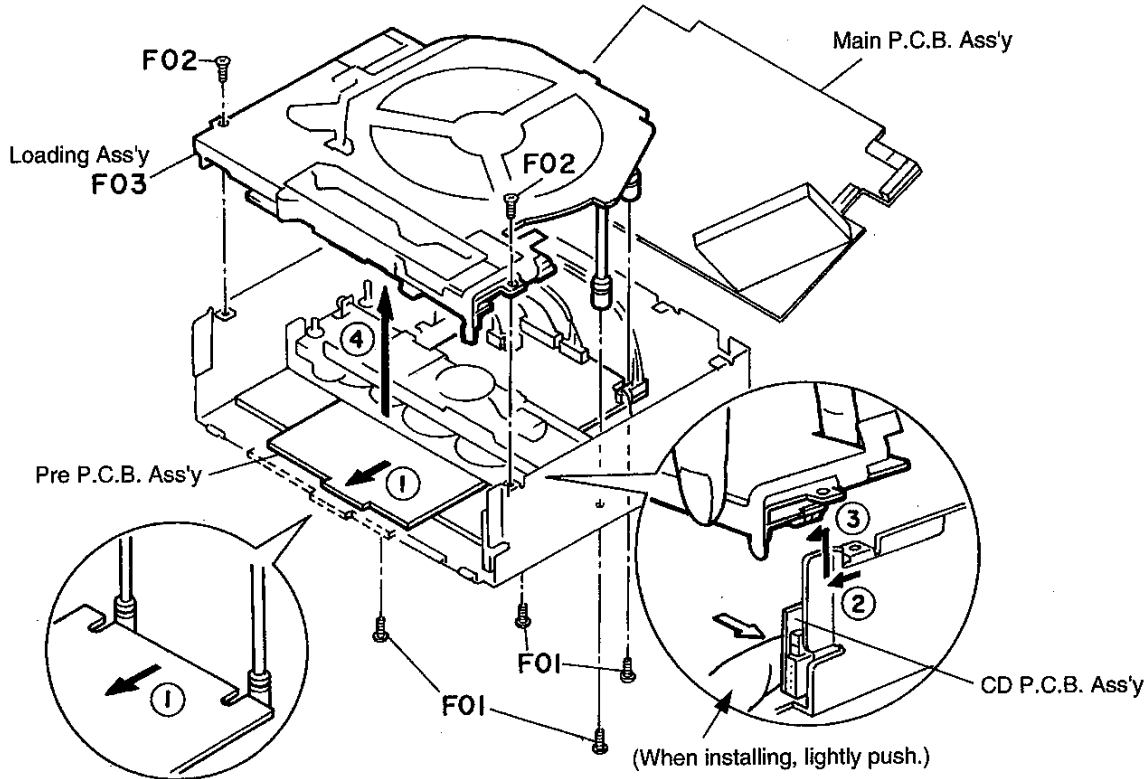

Fig. 2.3.1
Refer to Fig. 2.3.1.
- While seating the right front side of the Loading Ass'y, lightly push the CD P.C.B. Ass'y to the right as shown in Fig. 2.3.1, since the Loading Ass'y will come in contact with the CD P.C.B. Ass'y.